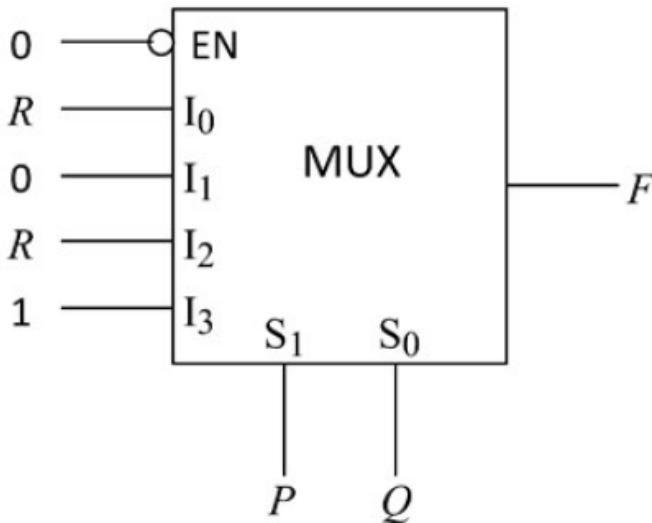

Fig. 4.9
14. Fig. 4.9 below shows a multiplexer where  $S_0$  and  $S_1$  are the select lines,  $I_0$  to  $I_3$  are the input lines, EN is the enable line and  $F(P, Q, R)$  is the output. Find the boolean expression for output  $F$  as function of inputs  $P, Q, R$  using K-map. (GATE EC 2020)